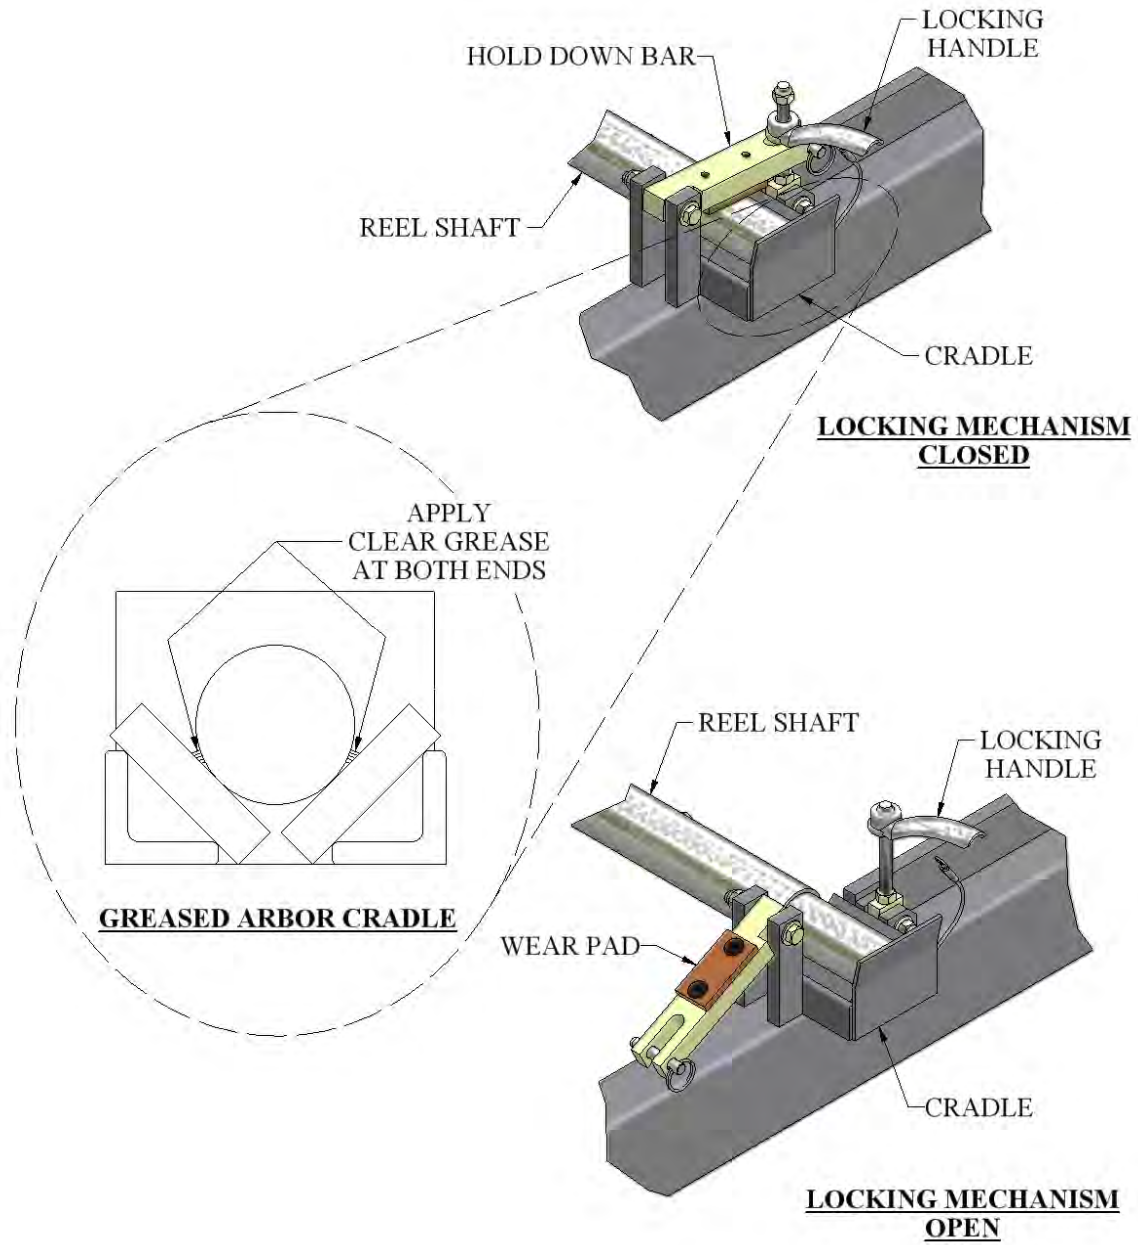

Figure 11: Expandable Reel Assembly
1. The reel shafts must rest in the arbor cradles on the reel rack. Keep the arbor cradles lubricated with clear grease to minimize wear. (Figure 11)
2. Use the Hold Down Bars on each cradle to secure the coil and reel to the reel stand during both operation and transit of the machine. The Hold Down Bar should be used to keep the coil from uncoiling too fast during the fabrication of panels. Apply just enough drag to keep coil tensioned. (Figure 11)
1. Prepare the reel stand by making sure the Hold Down Bars are in the unlocked and open position (Figure 11).
3. Rotate the Hold Down Bars (Figure 11) to the closed position and thread the handle onto the hold down bolt. If material is going to run panel from this coil, tighten the left and right handle just snug. Final adjustment of tension should be made while running a panel to keep reel from unwinding material too fast. As the coil becomes smaller, re-adjustment will need to be made. **Caution: Do Not over tighten Hold Down Bars. Drive and/or electrical system failure may occur.**